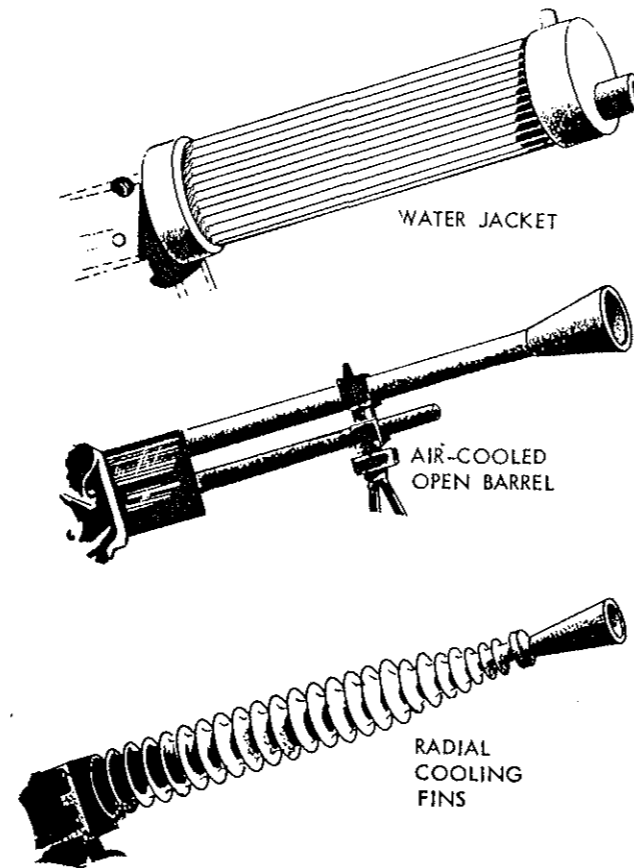

Figure 22.
3. Is the gun air cooled or liquid cooled? An air-cooled weapon frequently has a slotted barrel casing. Sometimes the barrel has no casing but is provided with fins to assist in the cooling. Air-cooled barrels also may have no casing or fins. A liquid-cooled weapon is provided with a large jacket surrounding the barrel (fig. 22).